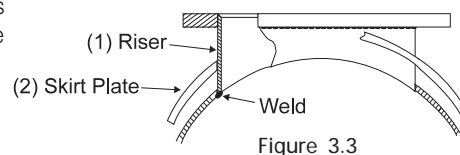

Figure 3.3
- Insert riser into the hole in skirt plate (Fig. 3.3), do not weld at this point. Pull skirt plate up against the flange of riser.